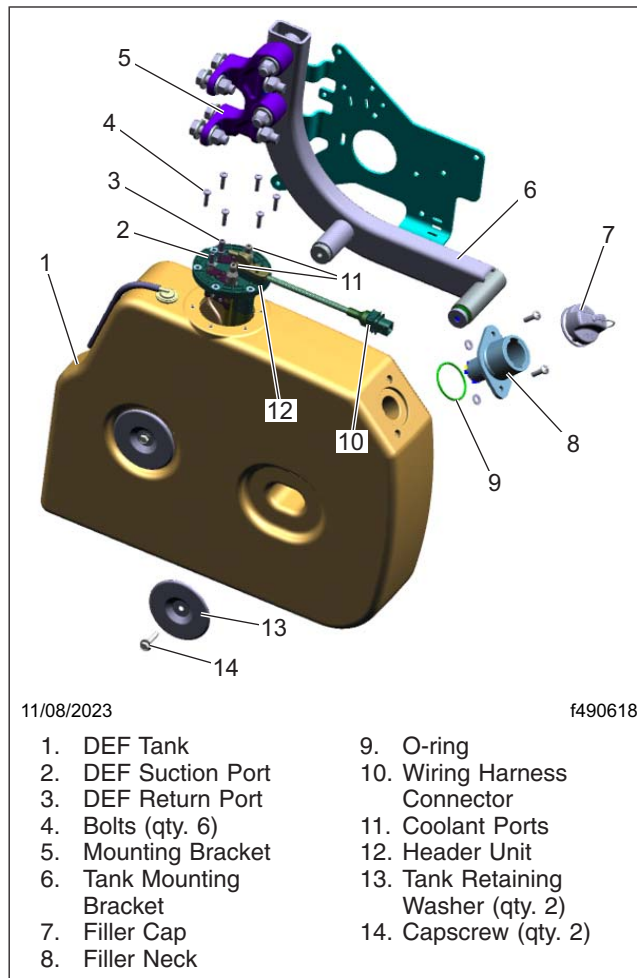

Fig. 1, 6-Gallon DEF Tank Mounting Assembly
7. Remove the DEF lines from the supply and return ports. See Fig. 1.
8. Remove the wiring harness connections from the tank header unit. See Fig. 1.
9. Remove the coolant lines from the supply and return ports. See Fig. 1.
10. If another chassis-mounted component is located directly on the rear of the DEF tank, check if the component is mounted close enough to prevent the tank from sliding off the mounting studs. If so equipped, remove the fasteners that secure the tank assembly to the frame casting, and remove the assembly from the frame casting. Remove the two capscrews that secure the tank and retaining washers on the mounting studs. See Fig. 1.